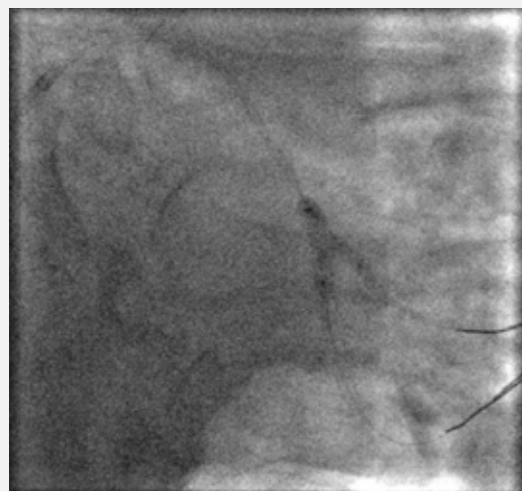

Fig. 7 Kissing balloon, Fluoroscopy
- After the guidewires exchange, a "kissing balloon" was realized with an 2.75 x 12 mm balloon catheter positioned at the marginal branch ostium and a 3.50 x 12 mm balloon catheter positioned in the mid circumflex (Fig. 7).